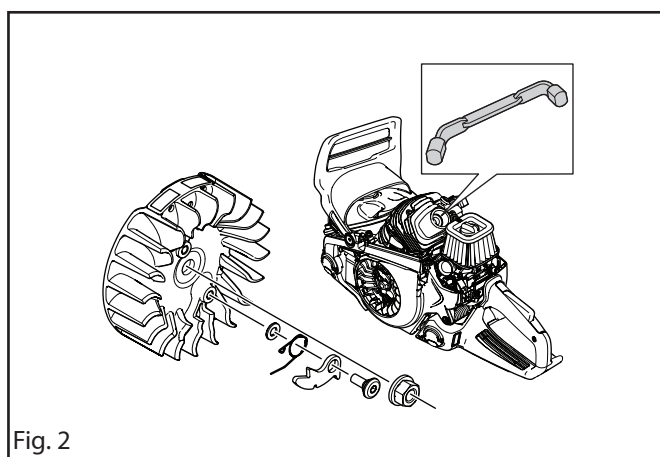

Fig. 2
6. Clean and remove any dirt around the spark plug. Unscrew the spark plug and fit the piston stop in spark plug hole. See figure 2.
8. Unscrew the flywheel nut. See figure 2.